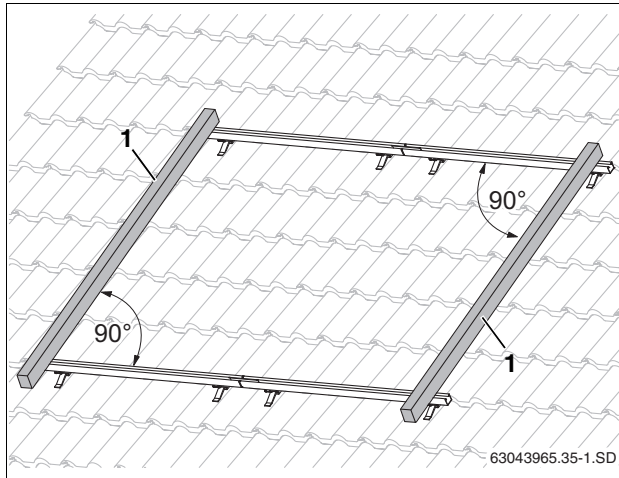

Fig. 30 Aligning the horizontal rails (high load rails not shown)
- ▶ Align the upper and lower horizontal rails evenly side to side and to each other using a level and a cord (Fig. 30).
Use a tape measure or a cord to compare the diagonal distances across, which must be identical for the installation to be square (Fig. 30, [1]). Correct it before proceeding if this is not the case.